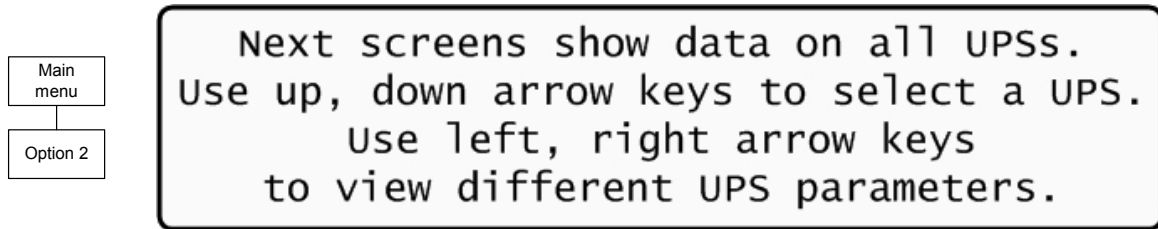

Figure 30: Instructions
1. From the main menu, select option 2 (UPS MODULE) and press the Enter button to display the instructions window shown in Figure 30.